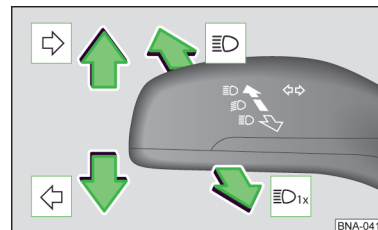

Fig. 29
Control stalk positions » fig. 29
- » Press the control lever all the way into position » or » until it stops » fig. 29 on page 37.